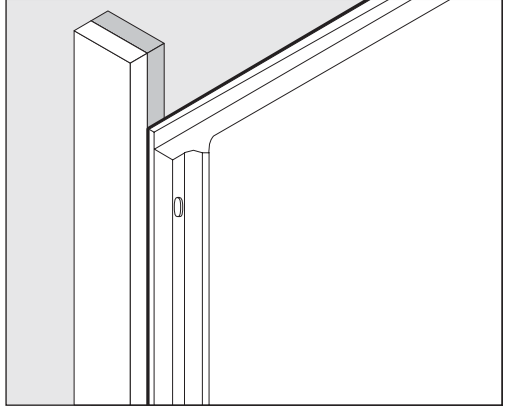

FIGURE 2. Stud must contact entire length of back panel.
- Place back panel first. The stud on each side of the back panel should contact the entire length of the back panel. (Fig. 2)